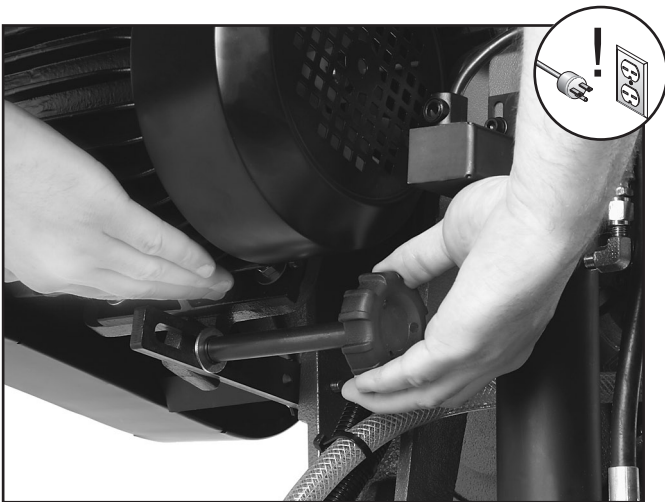

Figure 20. Belt tension knob.
3. With one hand, support the weight of the motor. With the other hand, loosen the belt tension knob (see **Figure 20**). The motor will drop and the V-belt will slacken.